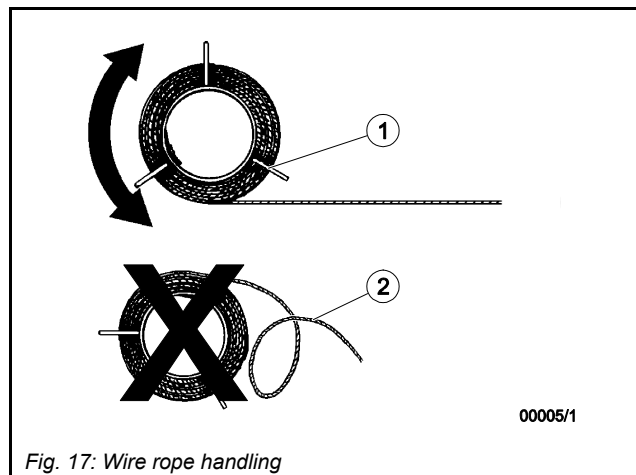

Fig. 17: Wire rope handling
While handling the ropes (1) you must ensure that there are no loops (2), which would make the ropes unusable, see Fig. 17.
- Always unreel and reel the wire rope in a straight line (Fig. 17) to prevent kinks, which make it unusable for the hoist.